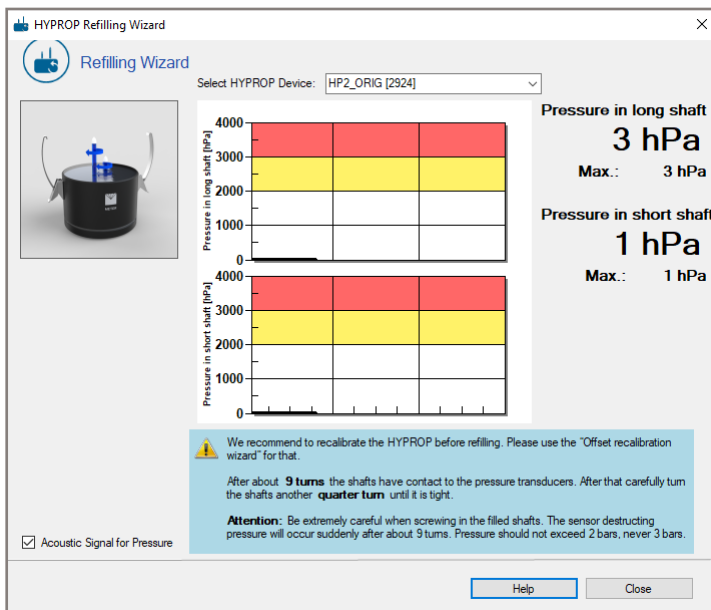

Figure 38 Refilling - connected device
4. Open the window **Refilling Wizard** by selecting the respective icon and choose the desired device to process by using the dropdown menu (Figure 38).